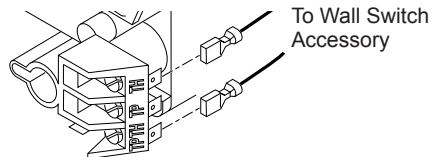

Figure 43 - Connecting Wall Switch to Control Valve
1. Connect one terminal of 25 ft. wire for the wall switch to the TPTH terminal on the valve. Connect remaining wire terminal to the TH terminal on the valve. Make sure that the wire terminals are in the positions on the unit as pictured in Figure 43. If wires are not connected as shown the switch will not work.
4. Connect wires from receiver to TH and TPTH to control valve (see Figure 43, page 24).